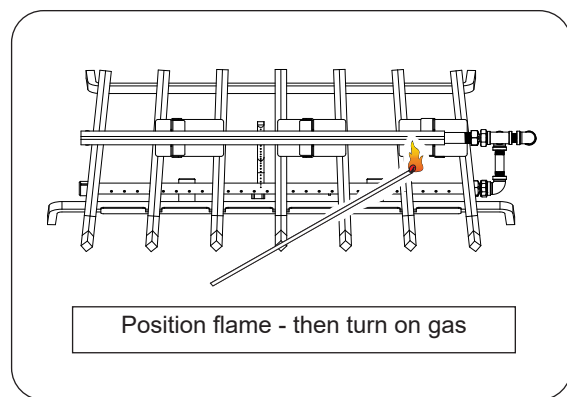

Fig. 15-1
3. Light a long-stem match or a long-necked butane lighter, and place the flame against the right side of the top burner (Fig. 15-1).